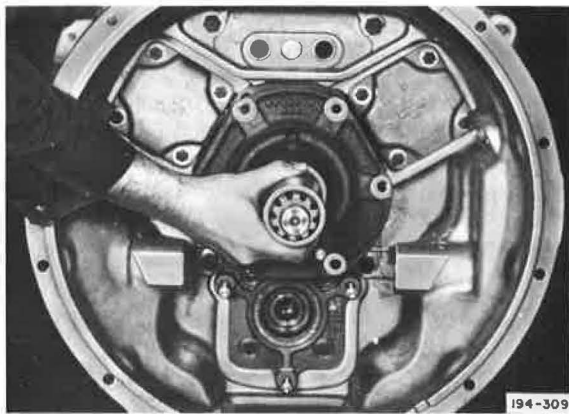

Figure 5-947. Installing Cover
8. For push-type clutch application only: Install main drive pinion bearing cover, using care not to damage sealing lip of oil seal. No special tool is required. See **Figure 5-947**.